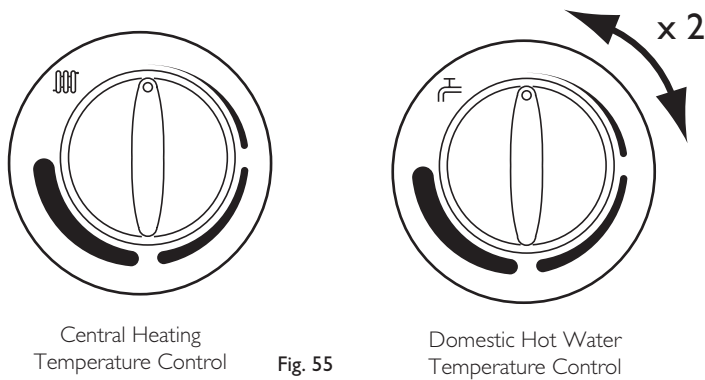

Fig. 55
5. Turn both temperature control knobs fully anticlockwise, then quickly turn the DHW temperature knob 1/4 clockwise twice and back fully anticlockwise (Fig. 55).